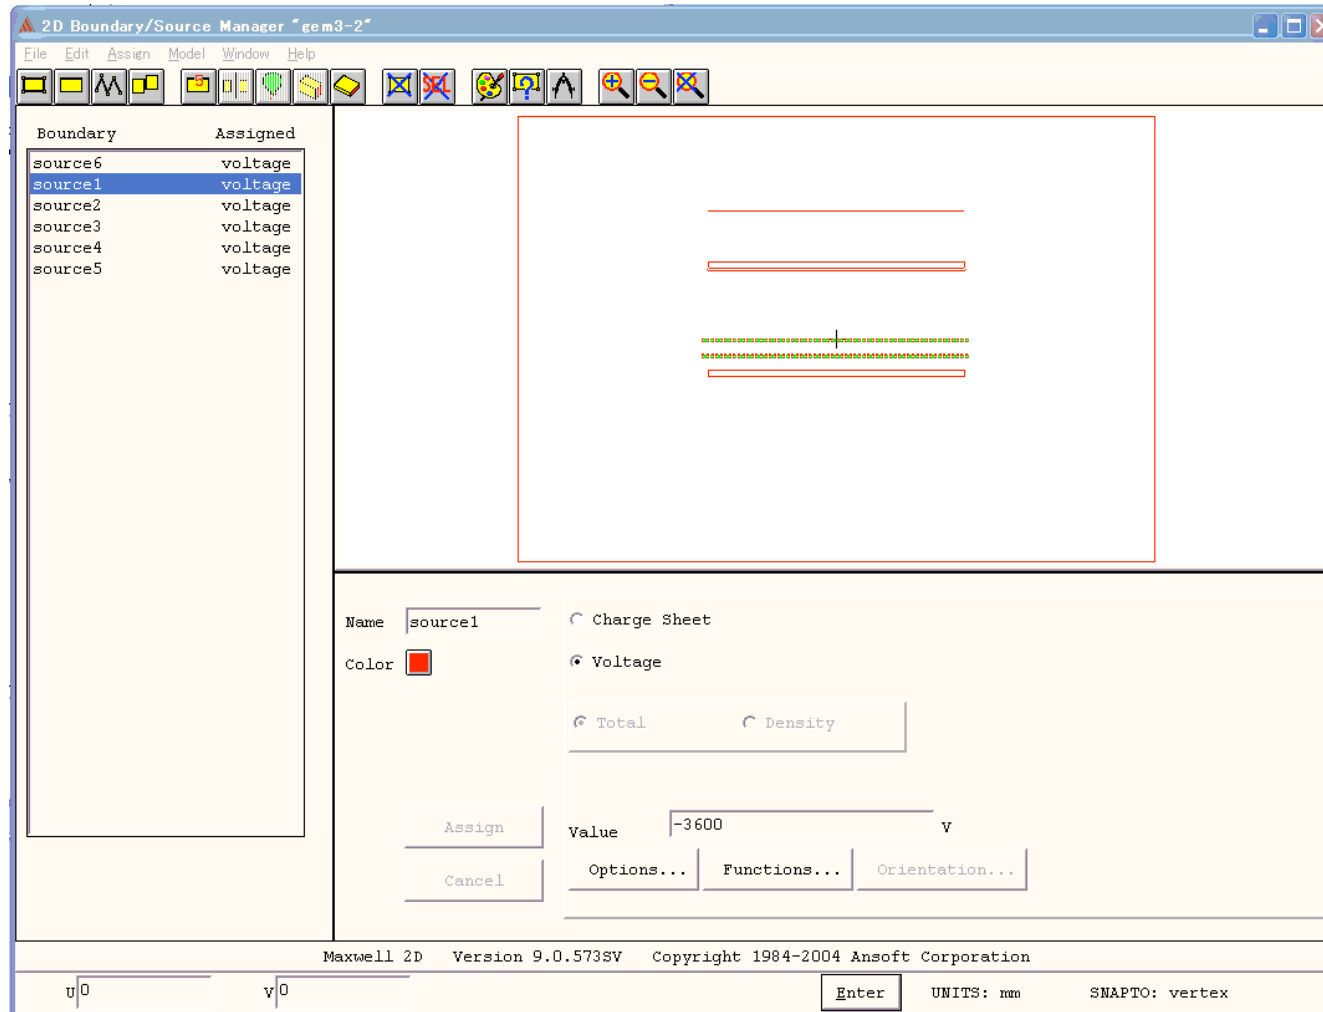

図6
3. Setup Boundaries/Sources → window(図6)が開く